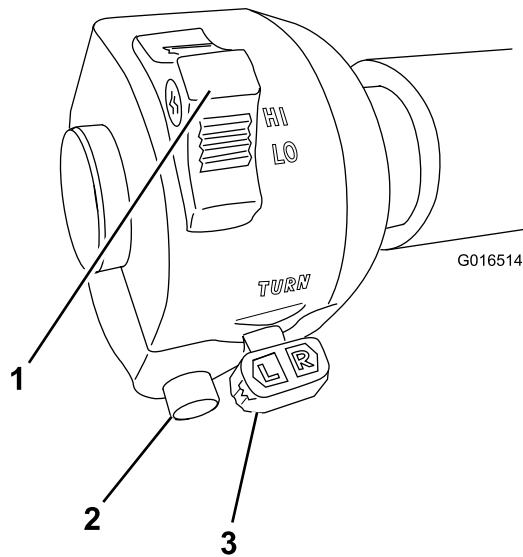

Figure 21
- The **direction indicator switch** operates the right-hand and left-hand direction indicator lights. It work only if the ignition is switched to ON (Figure 21).
- The headlamp and dipped beam headlamp switch operates the headlamps only when the ignition is switched to ON (Figure 21).